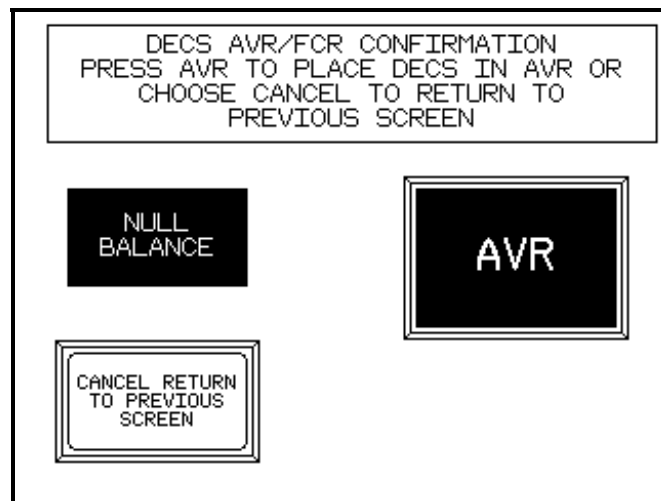

Figure 3-8. DECS Setpoint Entry Screen
**AVR/FCR TOGGLE.** Pressing this button displays the DECS AVR/FCR Confirmation screen (Figure 3-8), which is described in the paragraphs under *DECS AVR/FCR Confirmation Screen*.
This screen (Figure 3-8) requires the user to confirm an AVR/FCR mode change before the change is implemented. The DECS AVR/FCR Confirmation screen displays an AVR button when the DECS-400 is in FCR mode and an FCR button when the DECS-400 is in AVR mode. If the DECS-400 is in AVR mode, pressing the FCR button will place the DECS-400 in FCR mode. If the DECS-400 is in FCR mode, pressing the AVR button will place the DECS-400 in AVR mode. This button is highlighted when a null balance condition exists. (A null balance condition exists when the setpoint of the DECS-400 inactive operating mode is within 1% of the setpoint of the DECS-400 active mode.) Pressing the CANCEL, RETURN TO PREVIOUS SCREEN button aborts the AVR/FCR mode change and displays the DECS Mode Control screen.